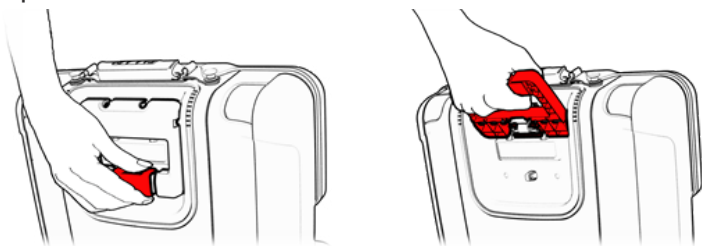

Figure 38
3. Release the secure lever of the back handle (See Figures 38 and 39, step 1) and bring the handle to 100 degrees position (See Figures 38 and 39, step 2). Allow the seat to slide down until it clicks in place (See Figures 38 and 39, step 3).